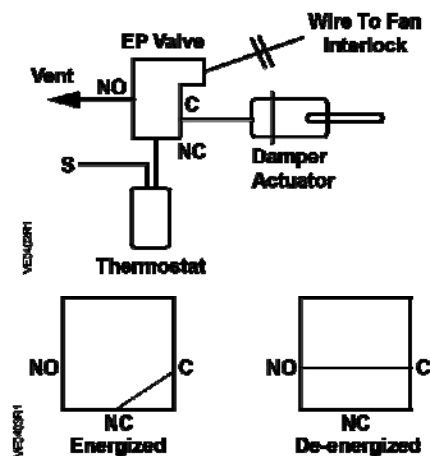

Figure 1. Standard Application.
A standard method is shown in Figure 1. The input air is connected to the Normally Closed Port (NC), and the output is connected to the Common Port (C). When the solenoid is energized, the NC Port connects to the C Port permitting the thermostat to control the damper actuator. When the solenoid is de-energized, the Normally Open Port (NO) is connected to C Port exhausting air from the actuator permitting it to return to its normal position.